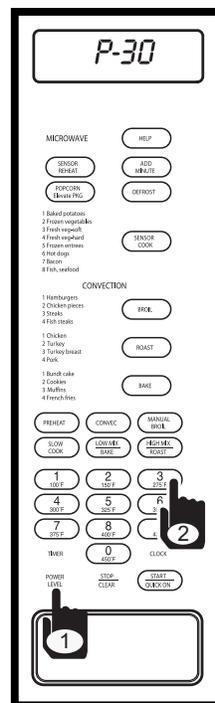

Figure 3-37.
2. Press POWER LEVEL key and number 3 key. Display will flash “P-30 - PRESS - START ” (See Figure 3-37).